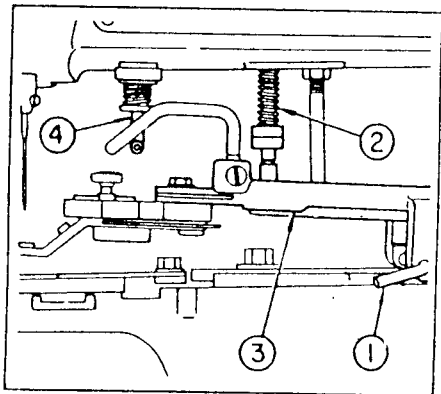
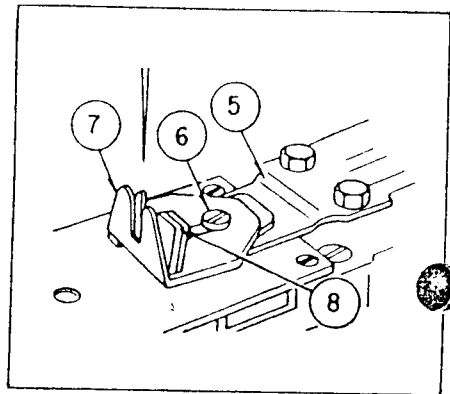
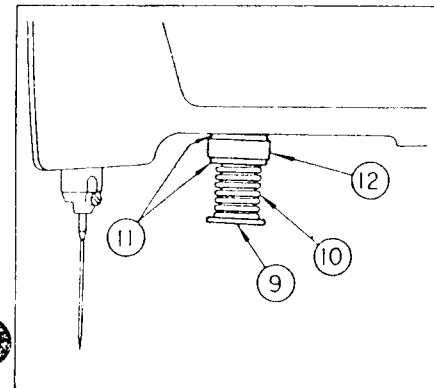

Fig. 30
Fig. 31
Fig. 32
#### (ii) 2 Second process attachment for wrapped around button (Fig.30, 31, 32, 33)
Release the knob attaching shaft ① from 375B11 and remove the knob unit ③ and pressure adjusting bar ② (Fig. 30) Then, as shown in Fig. 31, install the attachment ⑤.
Remove the ④ of Fig. 30 and install the accessory parts as shown in Fig. 32 Set the following parts to the spring retaining bar ⑨ in the following order: moving knife returning spring ⑩, stop-motion cushion washer ⑪, stop-motion ⑬ and stop-motion cushion washer ⑭
As shown in Fig. 31, the clearance between ⑦ and ⑧ can be adjusted by means of wooden screw ⑥